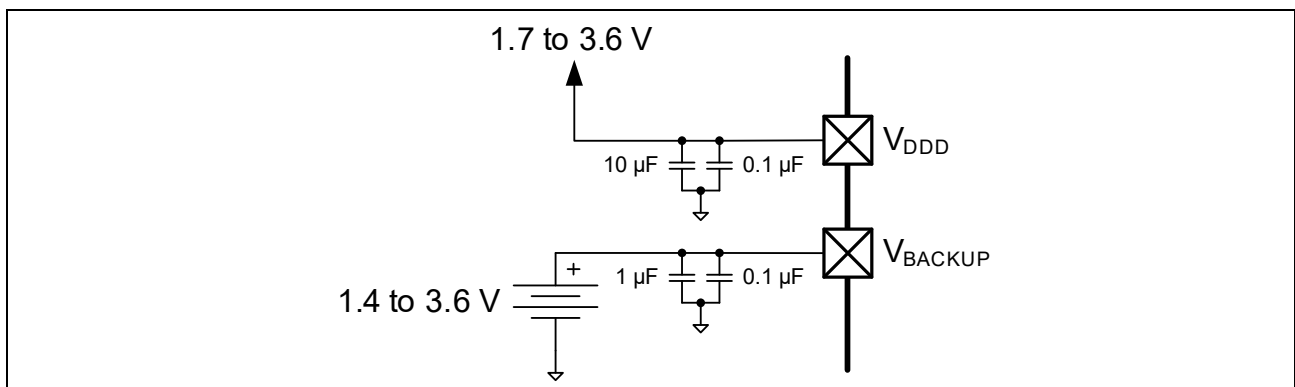

Figure 15 **Separate Battery Connection to V_{BACKUP}**
- V_{BACKUP} : the supply for the backup domain, which includes the 32-kHz WCO and the RTC. It can be a separate supply as low as 1.4 V, for battery or supercapacitor backup, as Figure 15 shows. Otherwise it is connected to V_{DDD} . It powers I/O port 0.